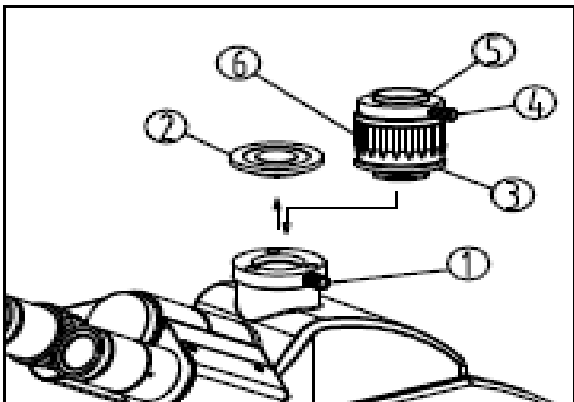

Fig. 21
C-Mount Assembly (Fig. 21)
1. Loosen the lock screw (1) of trinocular head, and the dust-cover (2) (See Fig.21).
2. Remove the dust-cover caps of the c-mount adapter (3) and the camera. Insert the screw thread end of c-mount adapter onto the camera, and then install the c-mount into the camera port.
3. Tighten down the lock-screw (1).
4. During observation, if the image displayed by the camera is not parfocal with the eyepieces, adjust the focus ring (6) on the camera adapter until the image is in focus.